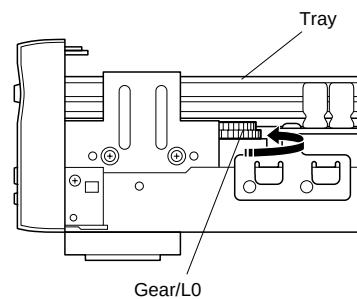

Fig. 2
b. Turn Gear/L0 as shown in Fig. 2 counter clockwise gradually till immediately before the tray starts to move and stop it there.